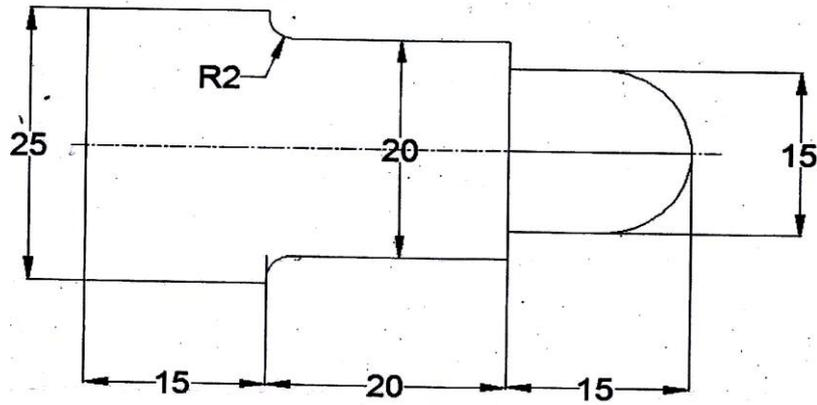

Figure-3
- (b) Write a part program for turning centre using ISO format for component shown in figure- 3. ૦૪